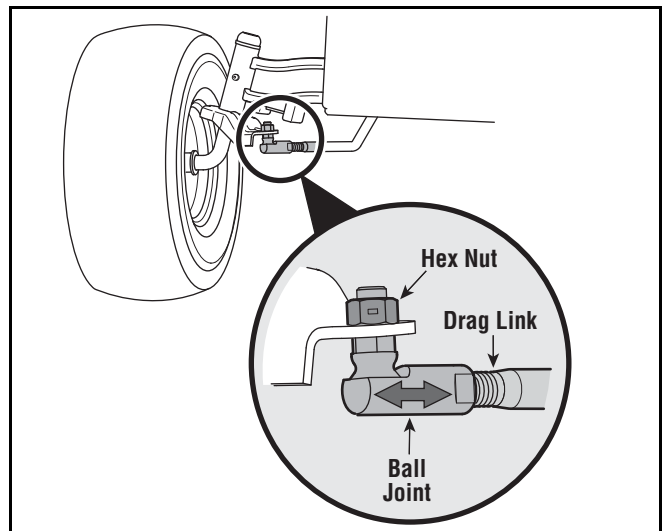

Figure 15
1. Remove the hex nut on the top of ball joint. See Figure 15